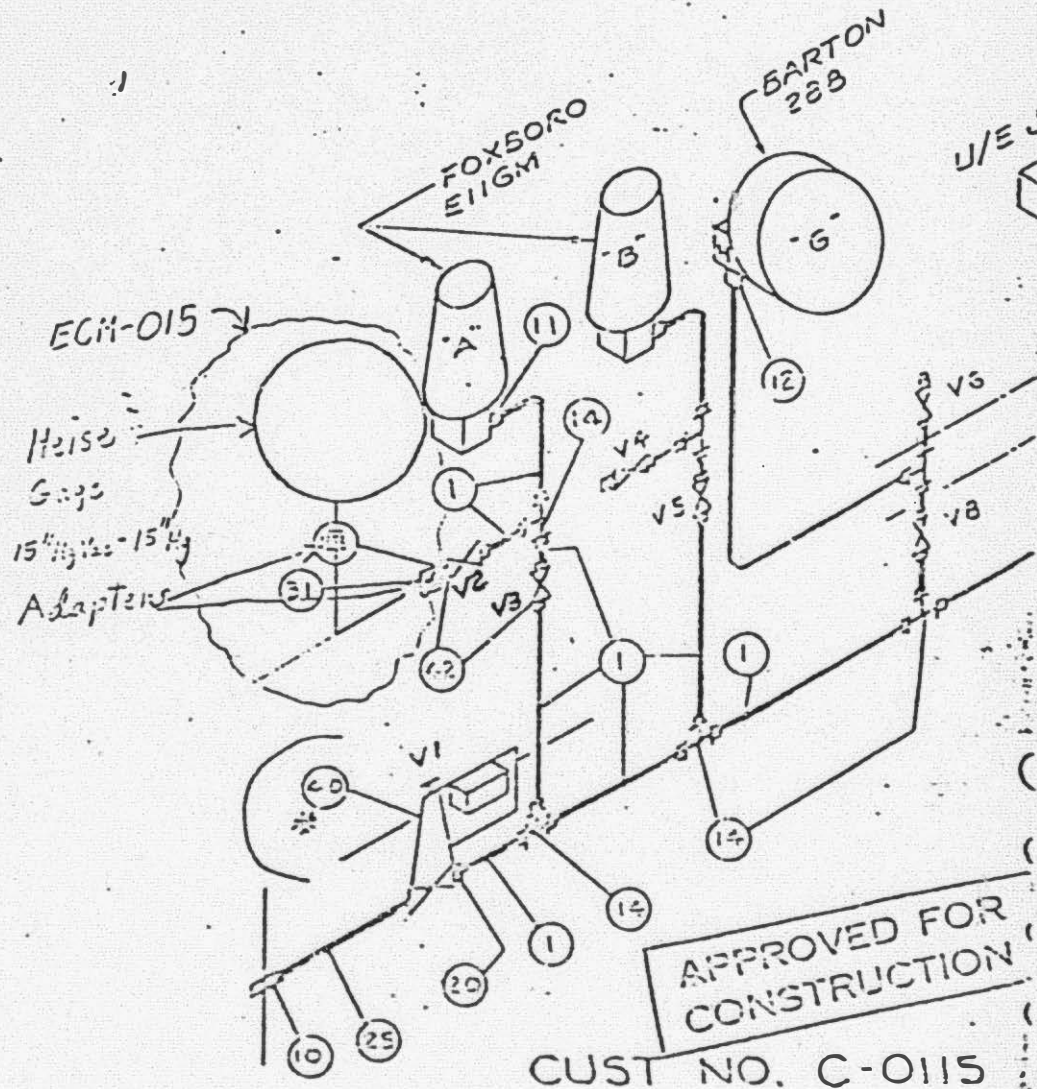

Figure 2
- 3.7 Install -3.6 to 30 psi Heise on to Reactor Building Pressure sensing line per Figure 2, as follows:
- 3.7.1 Close V2 and V3 as shown on Figure 2.